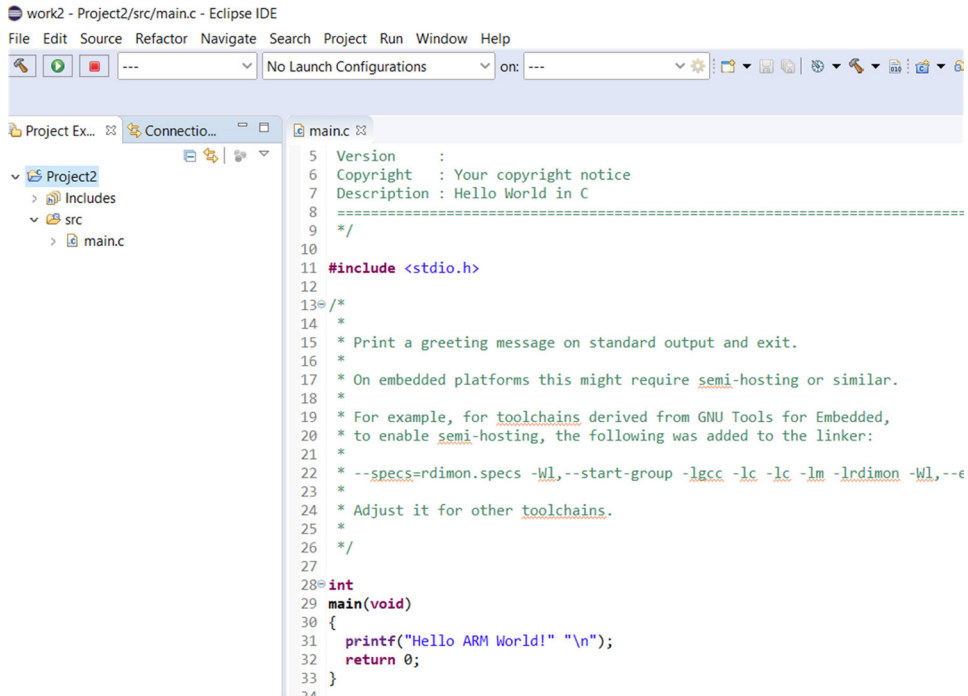

Figure 3.20 Workspace with the program
- You should now see your workspace with the program as shown in Figure 3.20